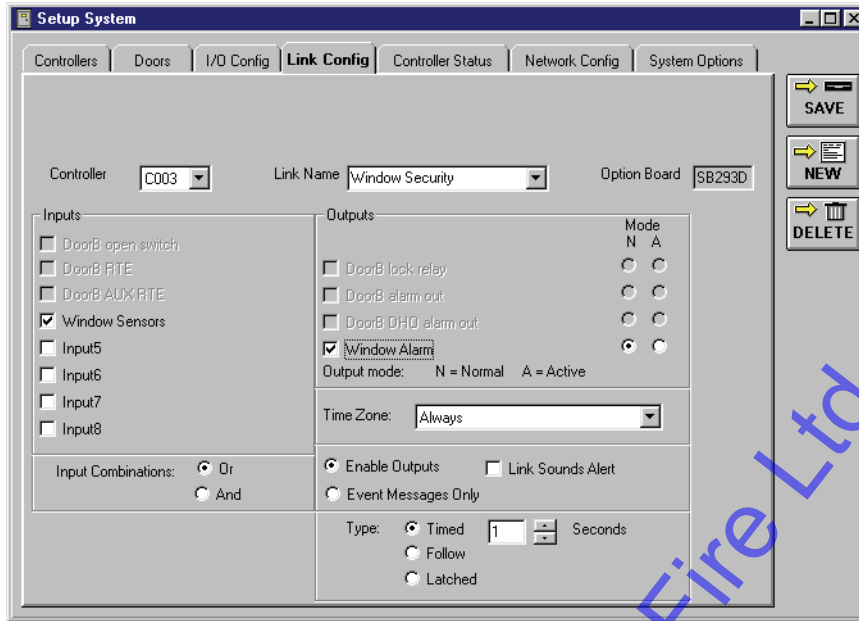

Figure 6-39: Select Input and Output Points
4. Click on the **Input 4** check box to select the Window Sensors input point (see Figure 6-39 on page 38 of this section). Since this is a single input point, the Input Combination radio buttons do not apply.
5. Click on the **Output 4** check box to select the Window Alarm output point (see Figure 6-39 on page 38 of this section).